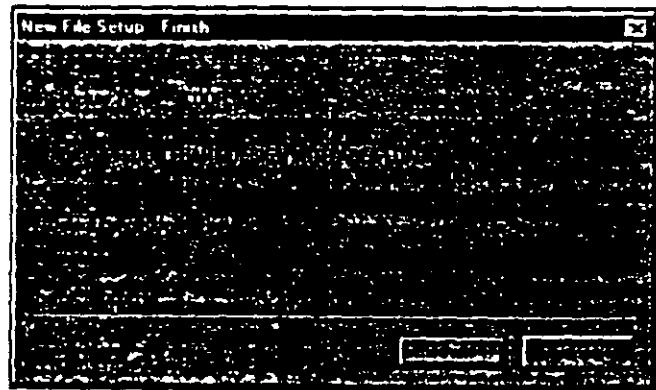

Figure 2.7
6. This dialog box confirms the information of our previous selections. Press the *Finish* button. (see Figure 2.7)